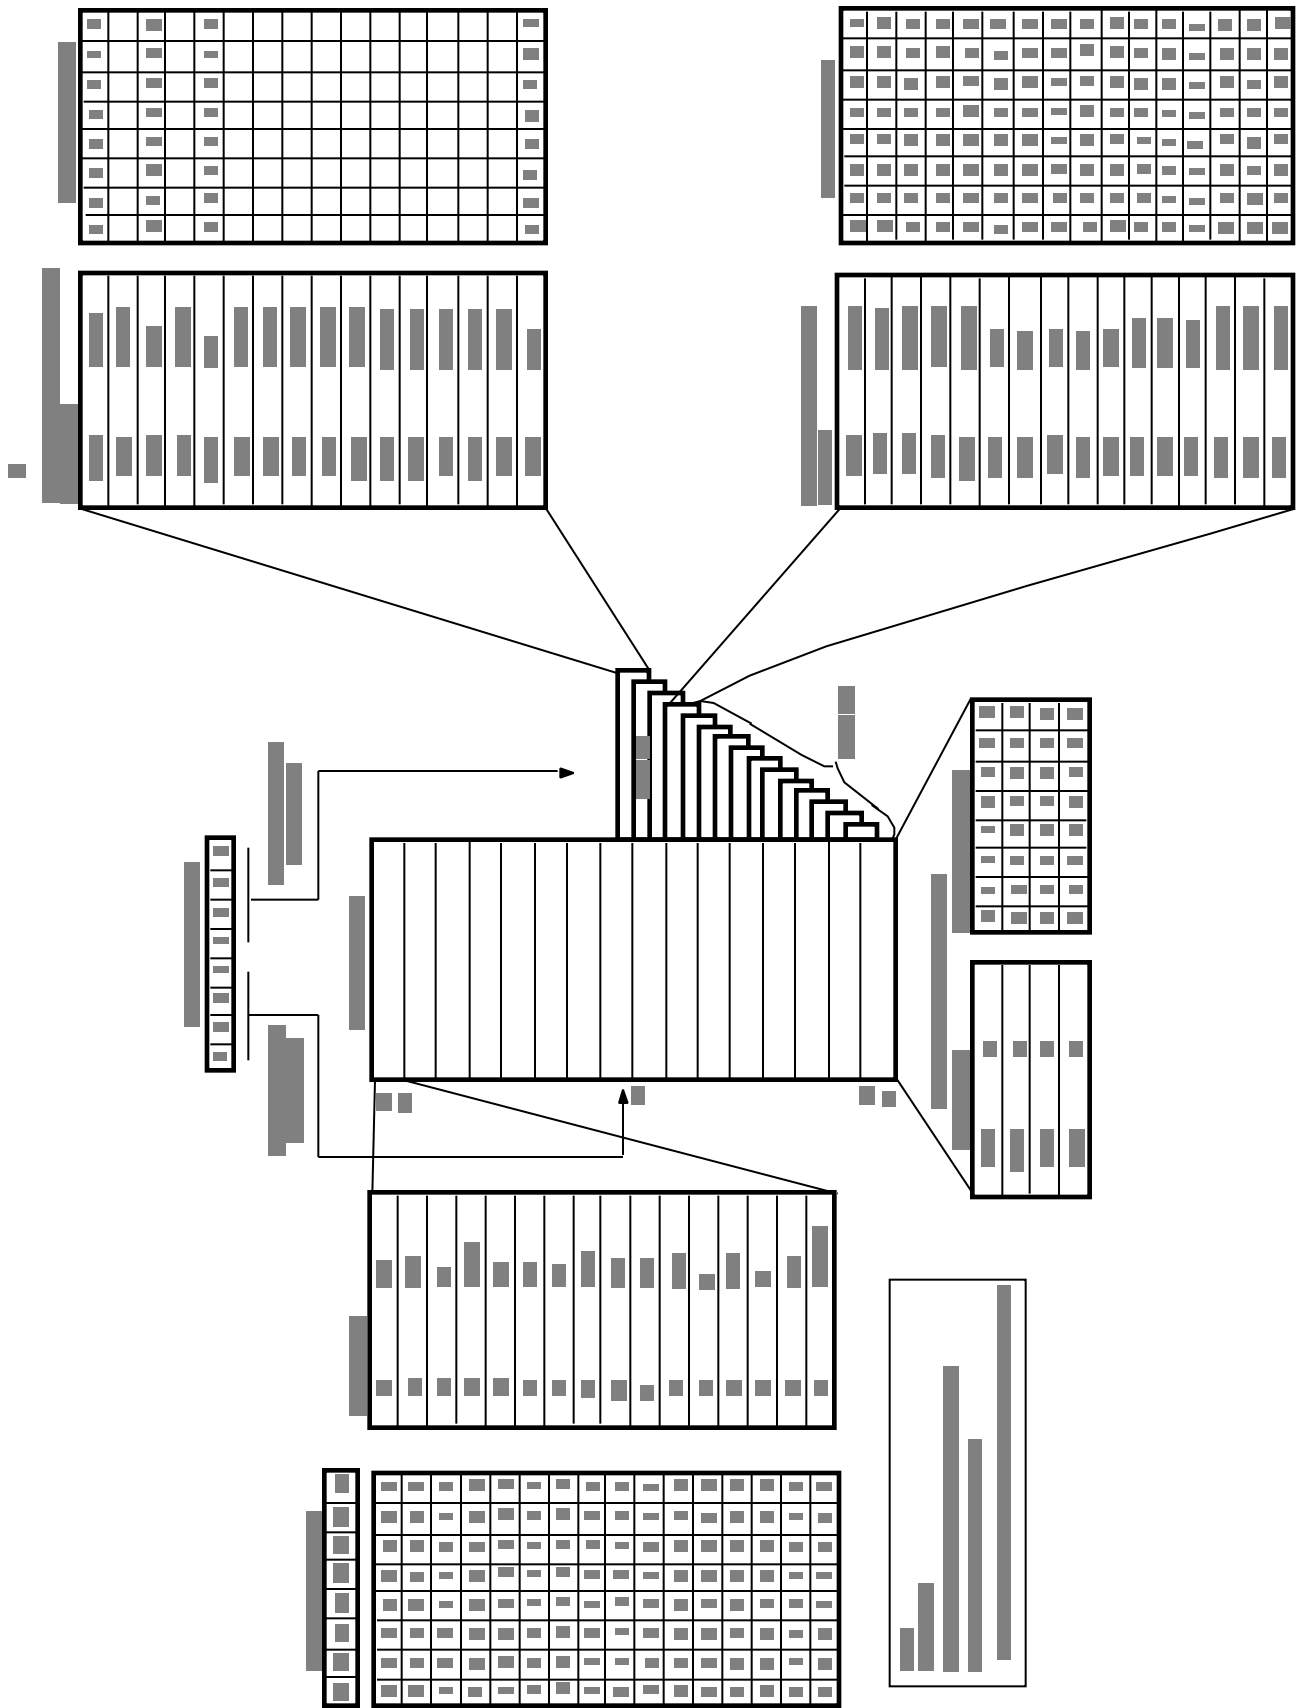
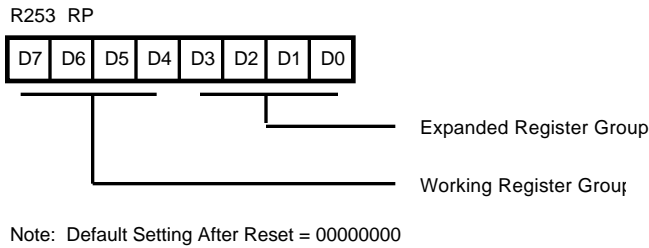

Figure 16. Expanded Register File Architecture
Figure 17. Register Pointer Register
Expanded Register File. The register file has been expanded to allow for additional system control registers and for mapping of additional peripheral devices and input/output ports into the register address area. The Z8 register address space R0 through R15 is implemented as 16 groups of 16 registers per group (Figure 16). These register banks are known as the Expanded Register File (ERF). Bits 3-0 of the Register Pointer (RP) select the active ERF bank. Bits 7-4 of register RP select the working register group (Figure 16). Four system configuration registers reside in the ERF address space in Bank F and eight registers reside in Bank C. The rest of the ERF addressing space is not physically implemented, and is open for future expansion.
Register File. The Register File consists of three I/O port registers, 237 general-purpose registers, 15 control and status registers, and four system configuration registers in the Expanded Register Group (Figure 16). The instructions can access registers directly or indirectly through an 8-bit address field. This allows a short 4-bit register address using the Register Pointer (Figure 18). In the 4-bit mode, the Register File is divided into 16 working register groups, each occupying 16 continuous locations. The Register Pointer (Figure 17) addresses the starting location of the active working-register group.